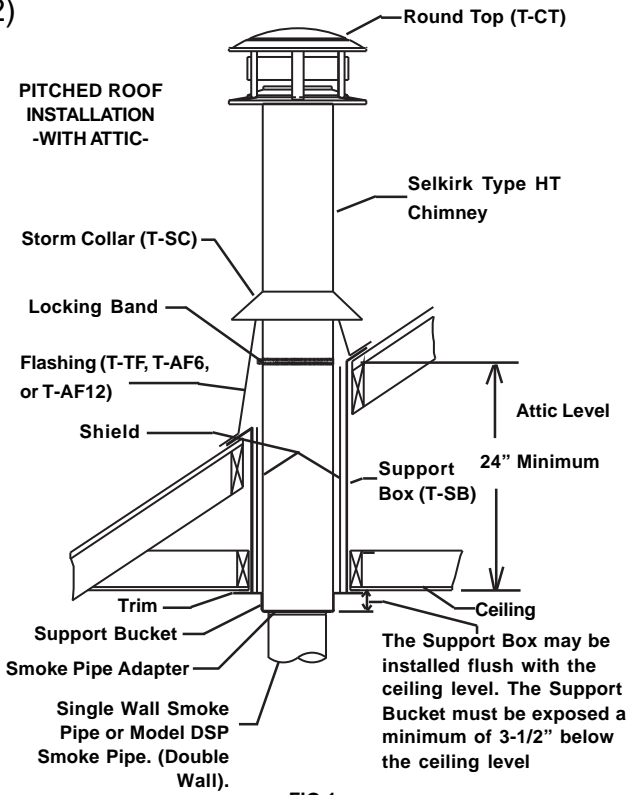

FIG 1
The Selkirk Support Box (T-SB) is intended for use when installed in an A-frame, mobile home, or a ceiling under a narrow section of roof. (See figures 1 & 2)
- 1) The T-SB should be installed so that the support bucket extends a minimum of 3 1/2" below any ceiling level. (See FIG 1)
- 3) Slide the T-SB (box) into the framed opening(s) from the roof and temporarily nail to roof joist. NOTE: Position box flush or below the ceiling level, see (fig. 1 and 2). Using an awl or nail, scribe a line around the box at the roof level, and remove the box.